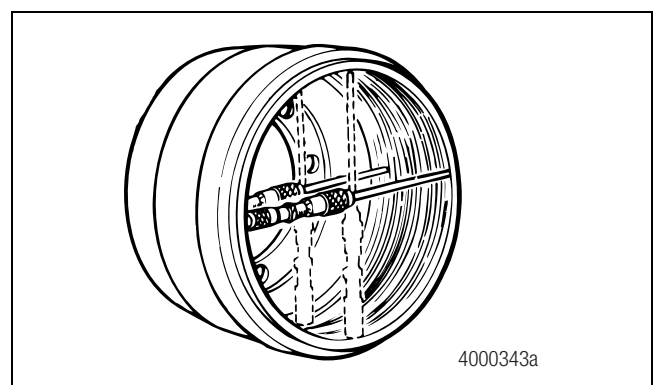

Figure 5.15
- B. Measure the inside diameter of the drum in several locations with a drum caliper or inside micrometer. Figure 5.15.